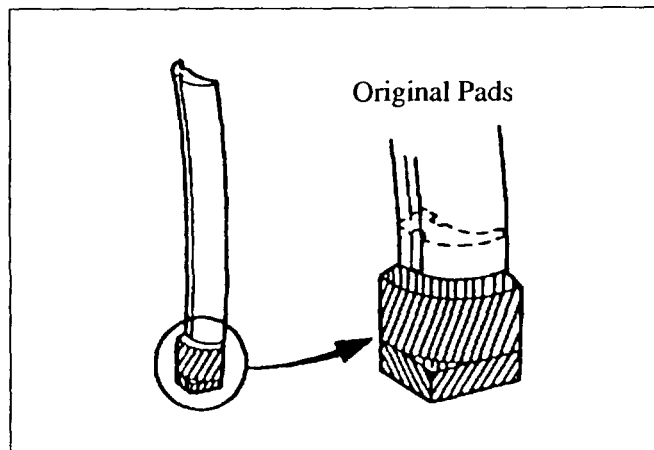

Figure 8: Original glass guide rail pad
3. Remove the original glass guide rail pad and replace it with a new one. **Figure 8.**